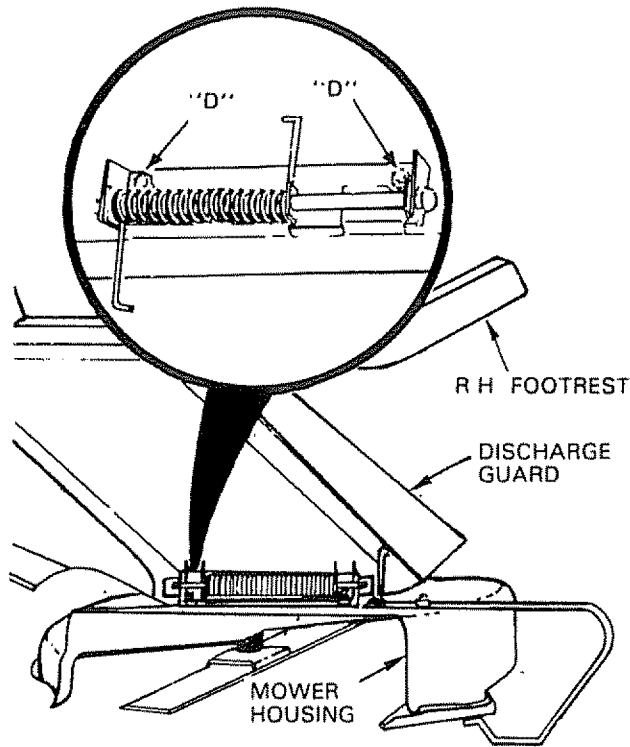

FIGURE 5
9. Using a 1/2" wrench remove hardware "D" (Fig. 5 - Inset) securing discharge guard to mower housing. Hardware may be discarded.